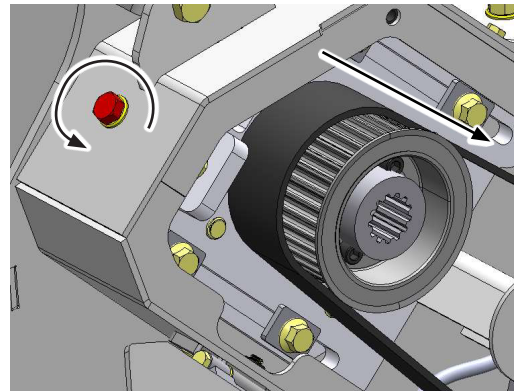

Figure 15
4. Lower the hydraulic motor sliding plate by turning the tension bolt counterclockwise. See Figure 15.